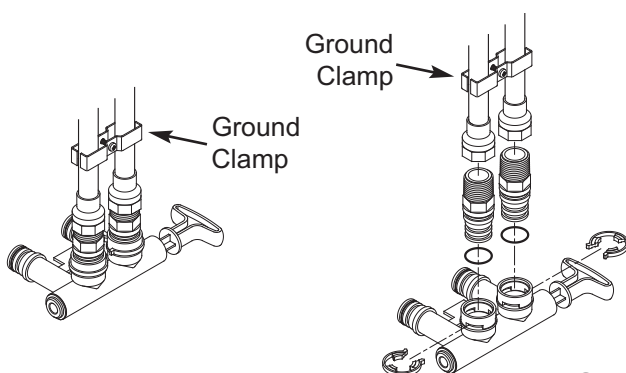

FIG. 13
1. Install the included metal ground clamp across the removed section of main water pipe, securely tightening the hardware at the center (See Figure 13).